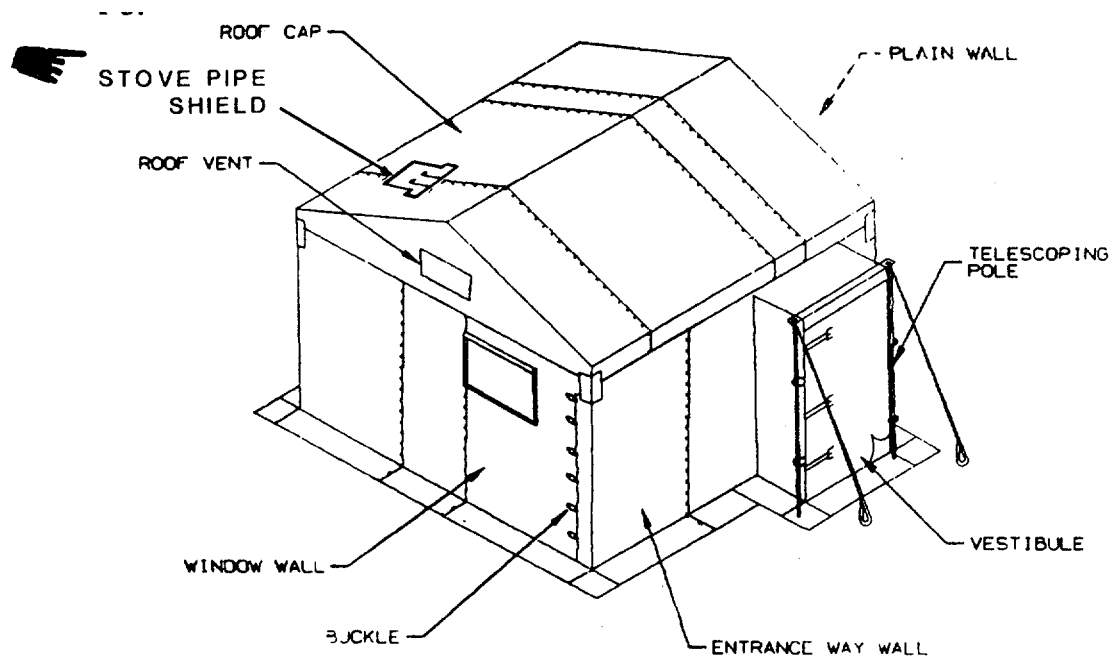

Figure 1-3. ICP Extension Tent (External View)
- a. An external view of the major tent fabric components is shown in Figure 1-3.